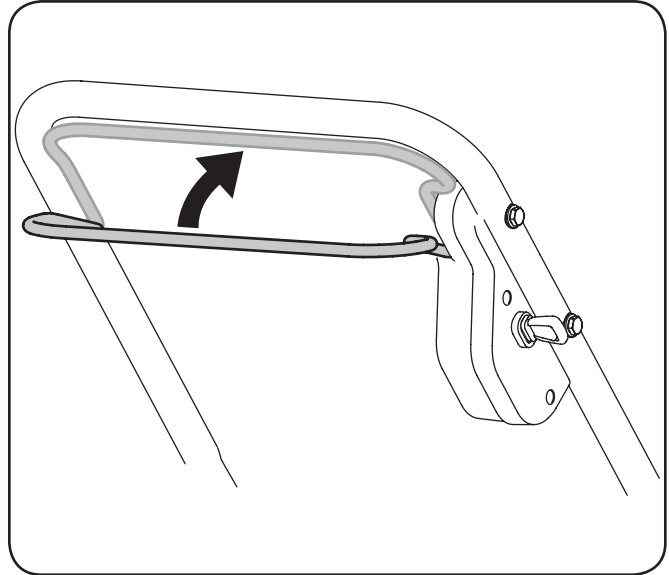

Figure 5-2
5. While holding the starter button in, squeeze the motor control lever against the upper handle to start the motor and engage the auger. See Fig. 5-2.